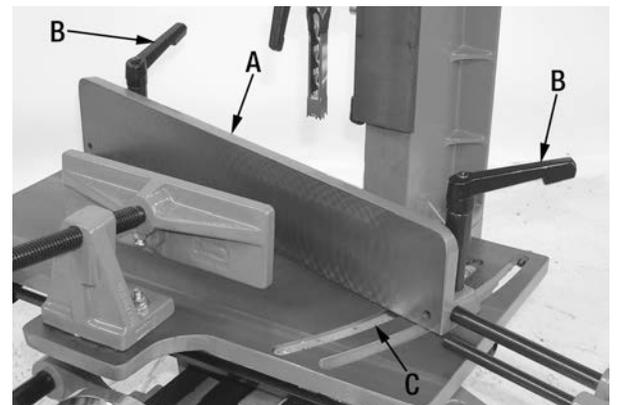

FIGURE 12
The fence (A) Fig.12 can pivot in or out by loosening the 2 lock handles (B) and sliding the fence forward to the desired position. The sliding table includes an angle scale (C), if you desire to set the fence at a 15 degree angle align the front of the fence with the 15 degree mark on the angle scale and tighten the 2 lock handles (B).